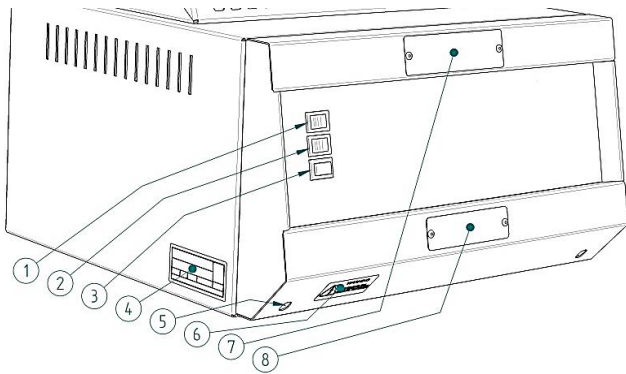

Figure 1.3.1 - Control Box layout and warning labels.
On the front control panel there are 2 warning labels as shown in figure 1.3.1; they are numbered 7 and 8. These warnings must be followed for the safe operation of this furnace.
The furnace heaters must be switched OFF using the heater switch, item 2 in figure 1.3.1, when the furnace is being loaded or unloaded. The work tube can become electrically conductive at high temperatures, presenting a possible hazard to the operator. If element failure is left undetected the element could collapse onto the work tube.
Index to numbered items in Figure 1.3.1 and 1.3.2